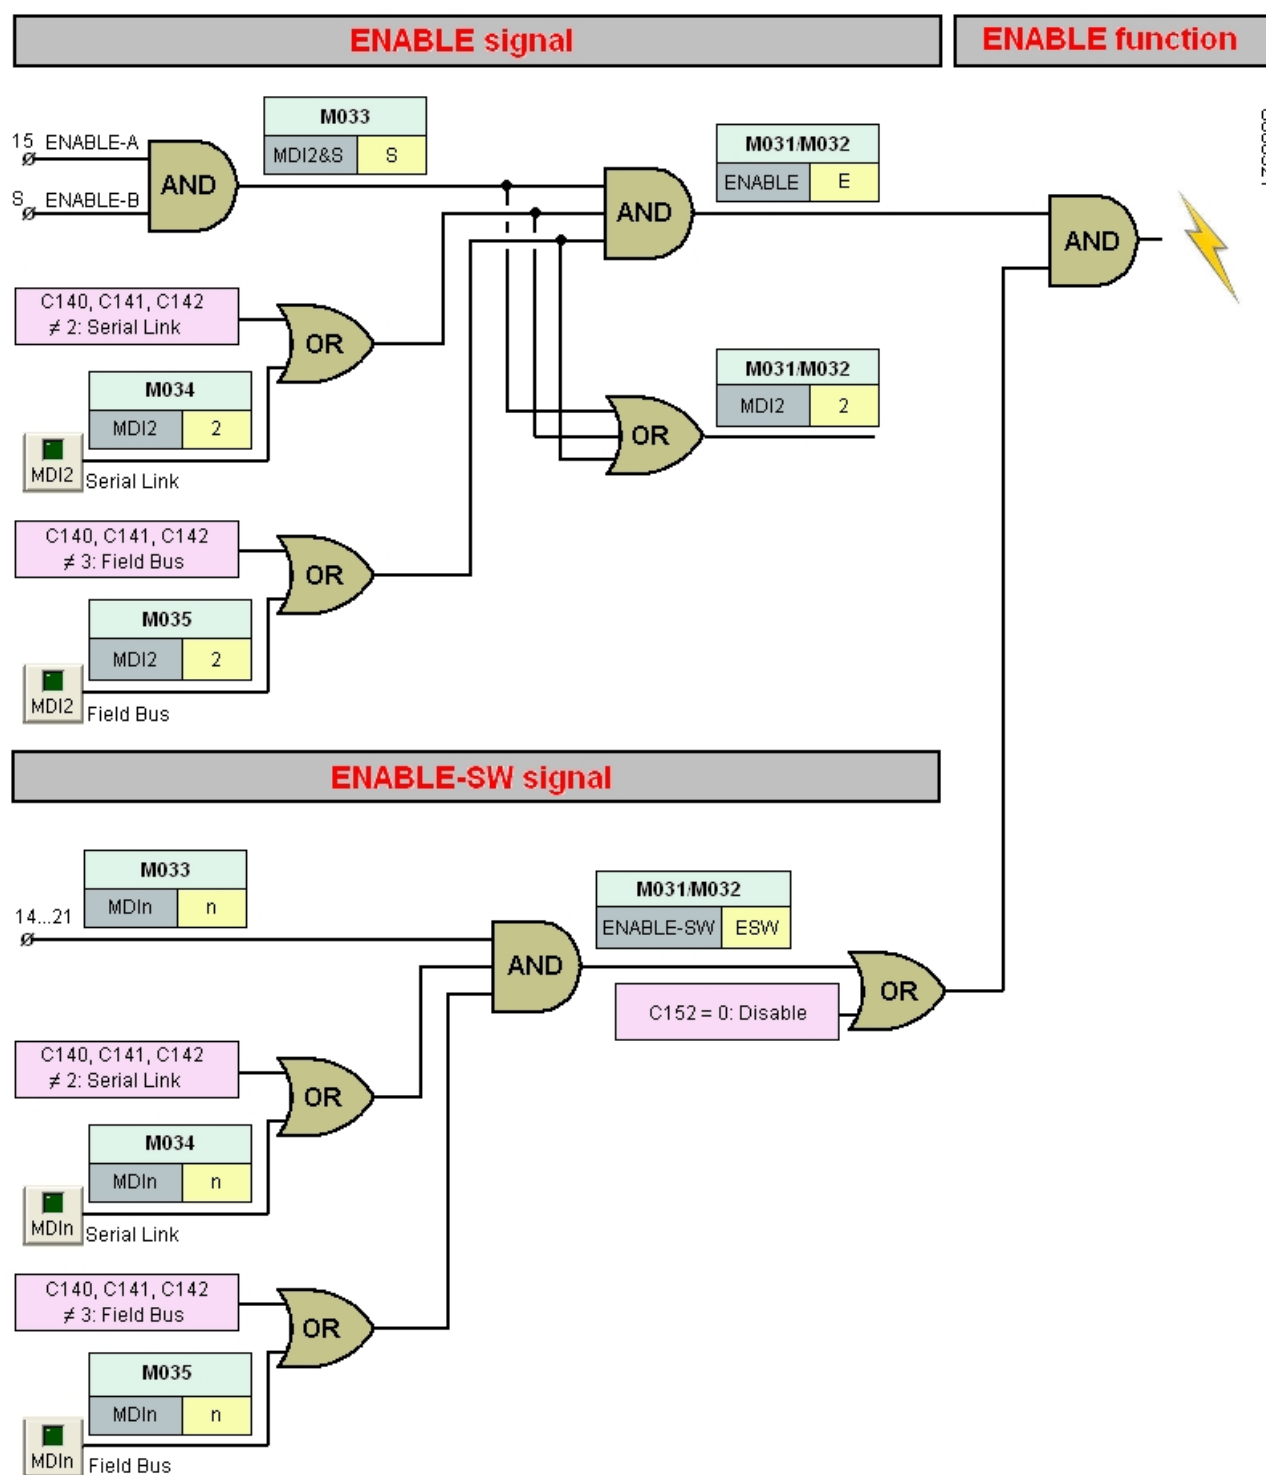

Figure 29: The ENABLE Function
Function	<p>Status of the control terminal board used by the drive. This is the terminal board resulting from the combination of the preset command sources (local terminal board, serial link and fieldbus), where:</p> <ul style="list-style-type: none"> - Inputs MDI1 to MDI8 are the result of the OR between the different control sources. - The ENABLE (E) status is the result of the AND of inputs MDI2&S of the physical terminals and of MDI2 inputs of all the other programmed control sources. - The ENABLE SW (ESW) is the result of the AND of the inputs programmed as ENABLE SW (C152) of all the programmed command sources. <p>See also the Control Method Menu, section 6.6.6. Refer to Figure 29 for the ENABLE and ENABLE SW status. For further information, contact Elettronica Santerno.</p>